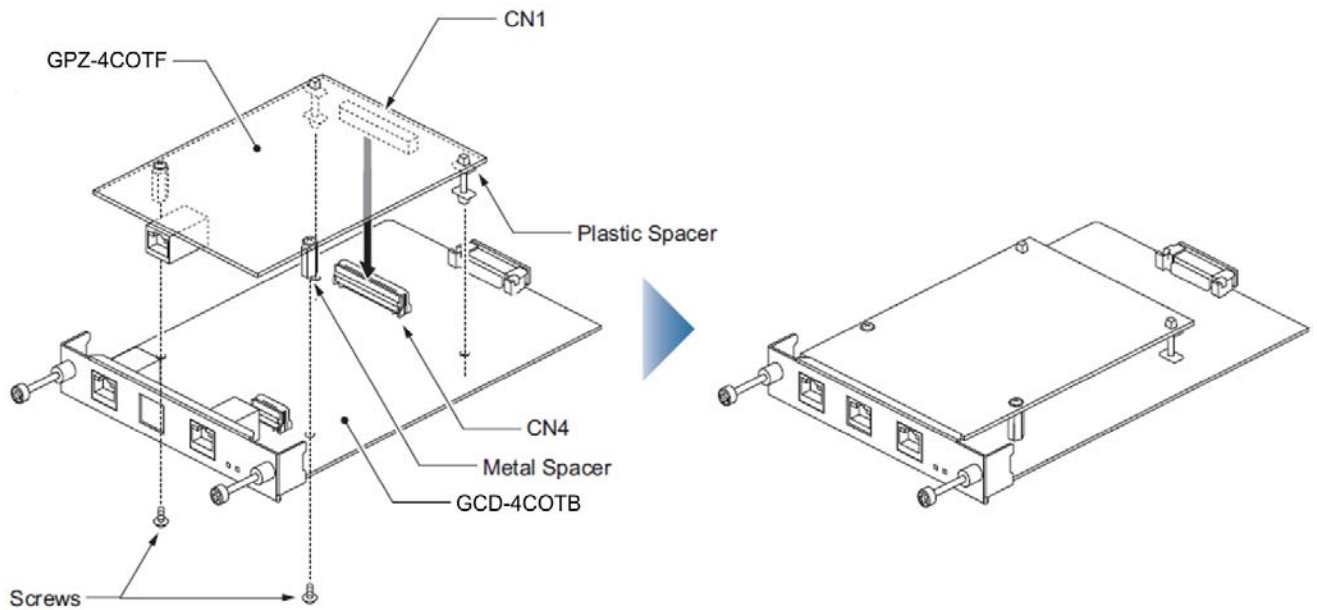

Figure 4-15 Installing the GPZ-4COTE Daughter Board
3. Install the GPZ-4COTE blade (refer to Figure 4-15 Installing the GPZ-4COTE Daughter Board on page 4-57).
Table 4-30 GPZ-4COTE RJ-61 Cable Connector Pin-Outs on page 4-59 shows the pin-outs for the RJ-61 connector. Refer to Figure 4-15 Installing the GPZ-4COTE Daughter Board on page 4-57 for an illustration showing the location of the connectors on the GPZ-4COTE blades.